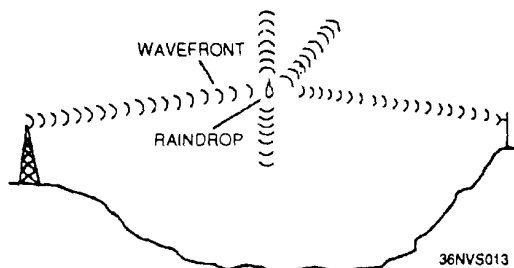

Figure 1-13.—Rf energy losses from scattering.
**RAIN.**— Attenuation because of raindrops is greater than attenuation for any other form of precipitation. Raindrop attenuation may be caused either by absorption, where the raindrop acts as a poor dielectric, absorbs power from the radio wave and dissipates the power by heat loss; or by scattering (fig. 1-13). Raindrops cause greater attenuation by scattering than by absorption at frequencies above 100 megahertz. At frequencies above 6 gigahertz, attenuation by raindrop scatter is even greater.